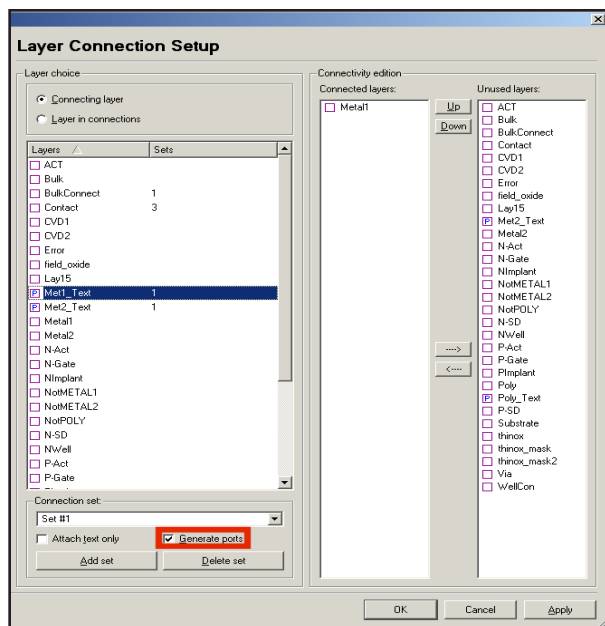

Figure 2. Configuration of the ports generation.
- These labels must be designed using layers which are configured to automatically generate some ports. To do this, select “Setup >> Technology >> Layer Connection Setup” from the Guardian-LPE “Layer Connection setup” panel. The highlighted option in Figure 2. (see below) has to be activated. With this setup all labels created with layer “Met1_Text” will generate a port